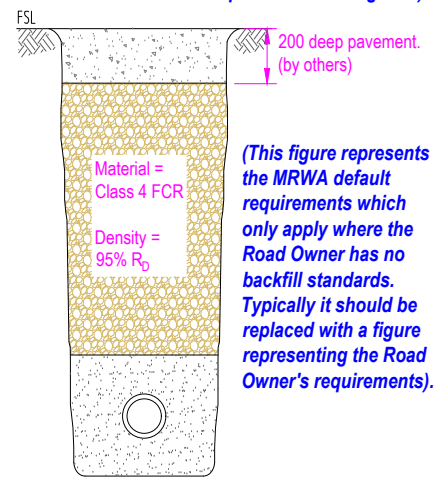

Figure 1: Type F Backfill
- Type F is to be installed as per Figure 1 (Consultant to write in the Road Owners Requirements for Backfill in the Road Reserve which is not under road pavement into Figure 1).